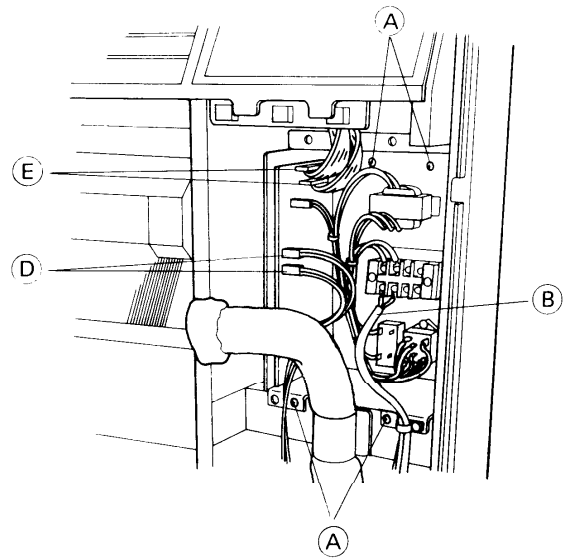

Fig. 4
- ③ Remove interunit power line (B) from the terminal board.
- ④ Remove the connector (D) of the thermistor lead wires.
- ⑤ Remove the connector (E) of controller lead wires.
- ⑥ Remove the clampers fixing the lead wires to remove the electrical component box easily.
- ⑦ Remove the four installation screws (A) of the electrical component box, and remove the electrical component box. Fig. 4